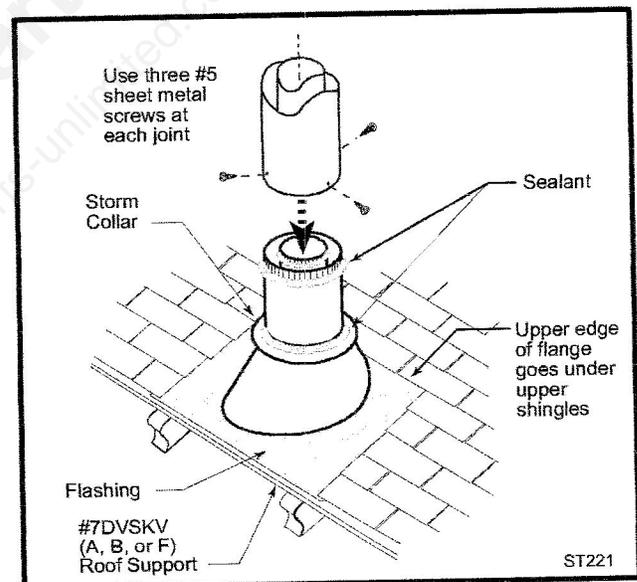

Fig. 38 Roof support and flashing.
7. Install the appropriate roof support and flashing, making certain that the upper flange of the flashing base is below the shingles. (Fig. 38)
9. Install the storm collar and seal around the joints. (Fig. 38)